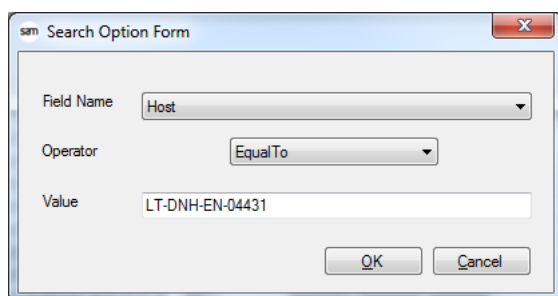

Fig. 2-7: Search Option Form
- b) From the displayed Search Option Form, select an operator and the entity or value to which it should be applied (Figure 2-7).